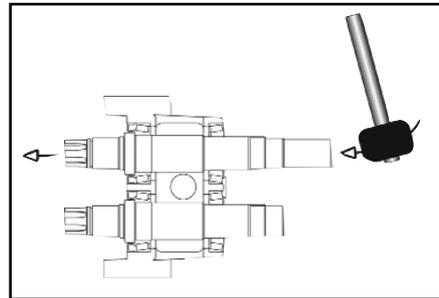

Figure 20
- b) With the pump disconnected from its drive, remove rotorcase (see section 6.06), drain oil via plug (9) and remove bearing carrier (24) from gear housing (22), bend down the tab washers (11) which lock the gearnuts (12).
- c) Before loosening the gearnuts (12) lock the rotors on the shaft using the plastic block (92) supplied for this purpose. Loosen the gearnuts (12) using a C-spanner (91).
- d) Remove gearnuts (12), tab washers (11), timing gears (20) and drive shaft keys (10), from the shafts.
- e) Remove the six screws (27) and washers (26) from the front of the bearing carrier.
- f) Using a light press or soft hammer, drive out the shafts (16 & 17) towards the front (rotorcase end) of the bearing carrier (24) (See Figure 20). This will push out the front bearing retainers (2). The outer race of the front bearing (23) will also slide out off the bearing carrier.